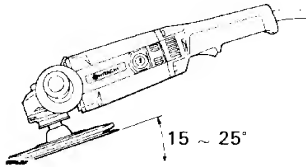

Fig. 3
2. Rather than applying the entire disc surface to the metal surface to be ground, use the sander by inclining it approximately 15° ~ 25° to grind with the disc peripheral portion. (Fig. 3).